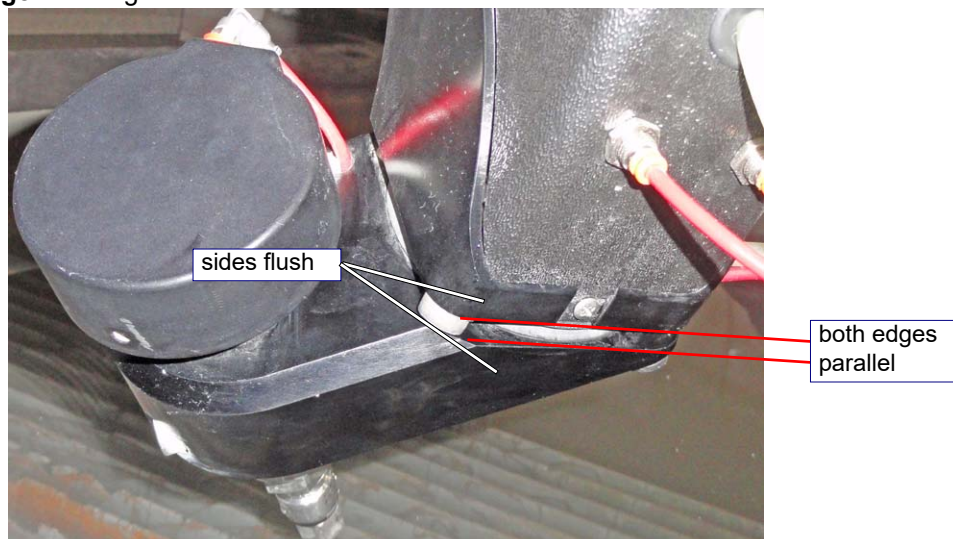

Figure 12
- When the **A-Jet** has the correct **tilt axis step value** entered, the sides of both the top and bottom **surfaces** will be aligned flush, and the **top edge** will be approximately parallel to the **bottom edge**. See Figure 12.
7. If your **A-Jet** matches the alignment illustrated in Figure 12, the correct **tilt axis step** value has been entered and this test is complete.